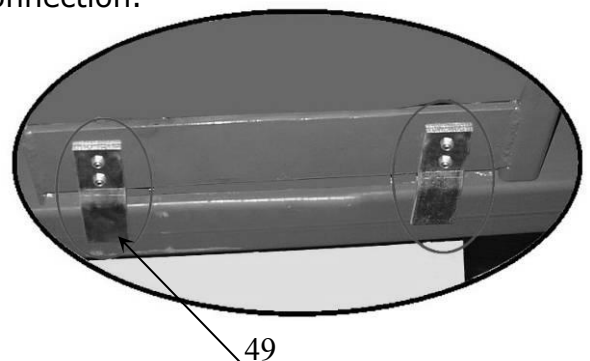

Fig.45
P. Install drive-in ramp, tire stop plate, platform lock plates, Limit rod (See Fig. 45)